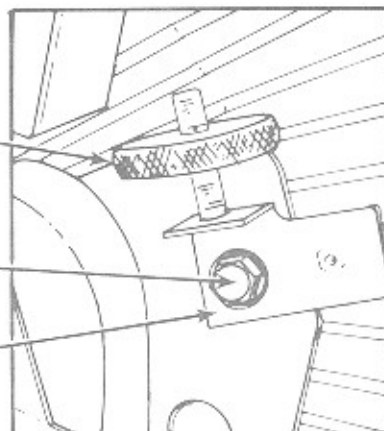

Figure 6-6. Optical Switch Adjustment
2. Loosen the optical switch bracket mounting screw, turn the adjustment knob counter clockwise to top of its travel, and move the bracket down to the bottom of its travel (refer to figure 6-6). Snug the optical switch mounting screw, so that the bracket can move with resistance.